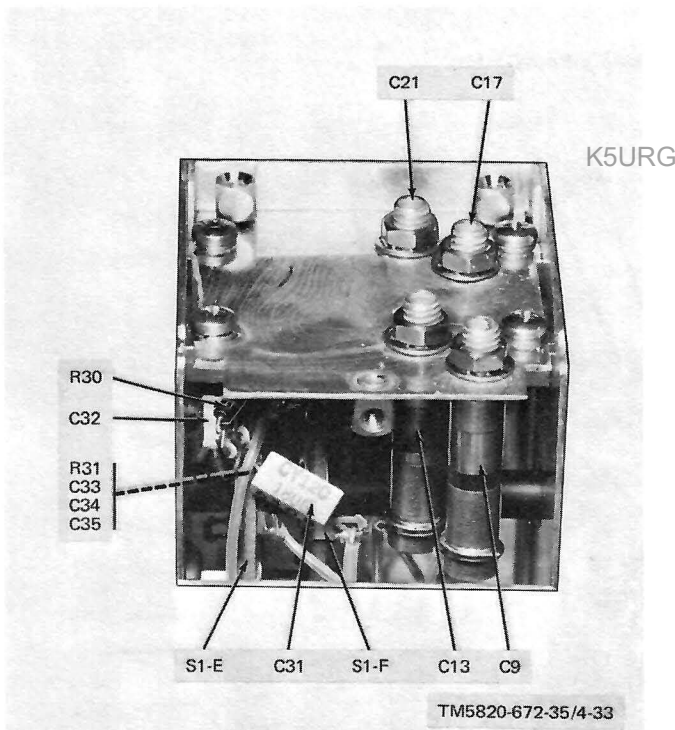

Figure 3-5. First double-tuned filter trimmer capacitors.
(2) Remove one screw and one flat washer that retain cable clamp to chassis.
(3) Remove three *glyped* screws that retain assembly to chassis.
(4) Lift assembly away from chassis to limits of attached cable assembly.
(5) For correct reassembly, follow above procedures in reverse order.
d. Refer to figure 3-5. Remove the first double